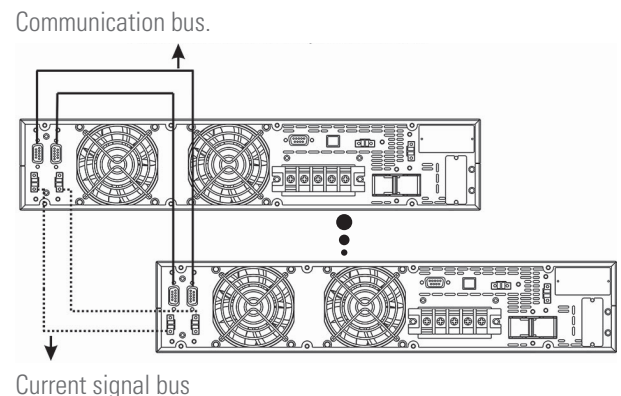

Fig. 17. Communication and current signal connections for system in parallel.
- Parallel connections and current signal bus.** Use the 15-wire signal cable with mesh and DB15 connectors at the ends to connect a maximum of 3 devices. Each cable has a male and a female connector at the ends which must be connected to link two devices. It is essential to close the communications loop of the parallel bus and the current signal bus through the cable with connectors (see Fig. 17). The length of the cables related to the parallel bus is approx. 1.5 metres and must not be prolonged under any circumstances due to the risk of interference and communication failures that this would entail.